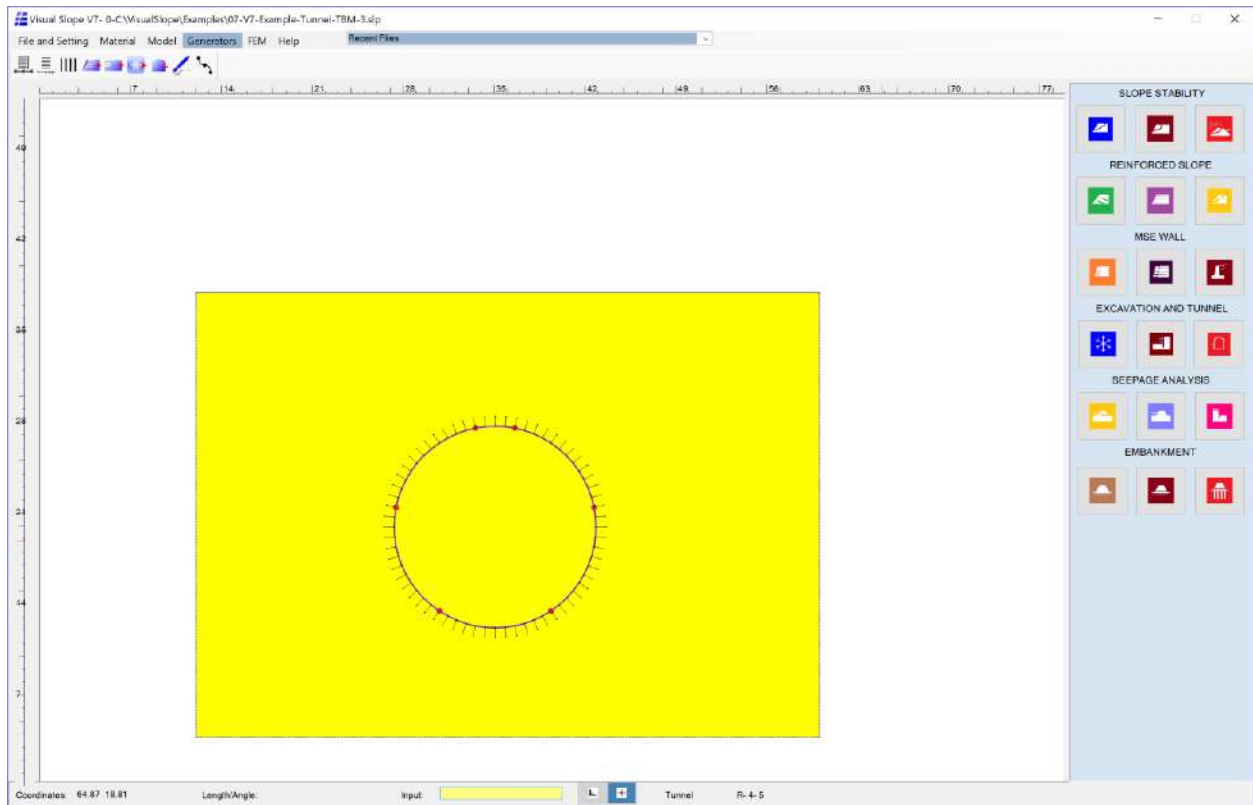
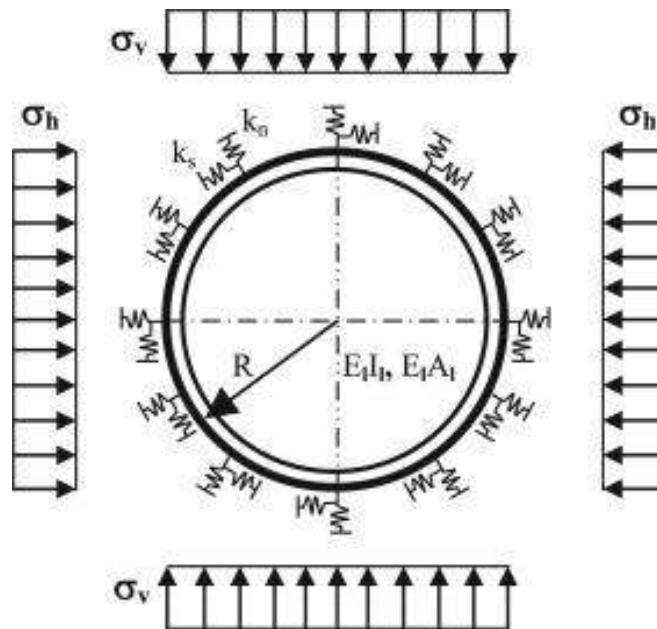
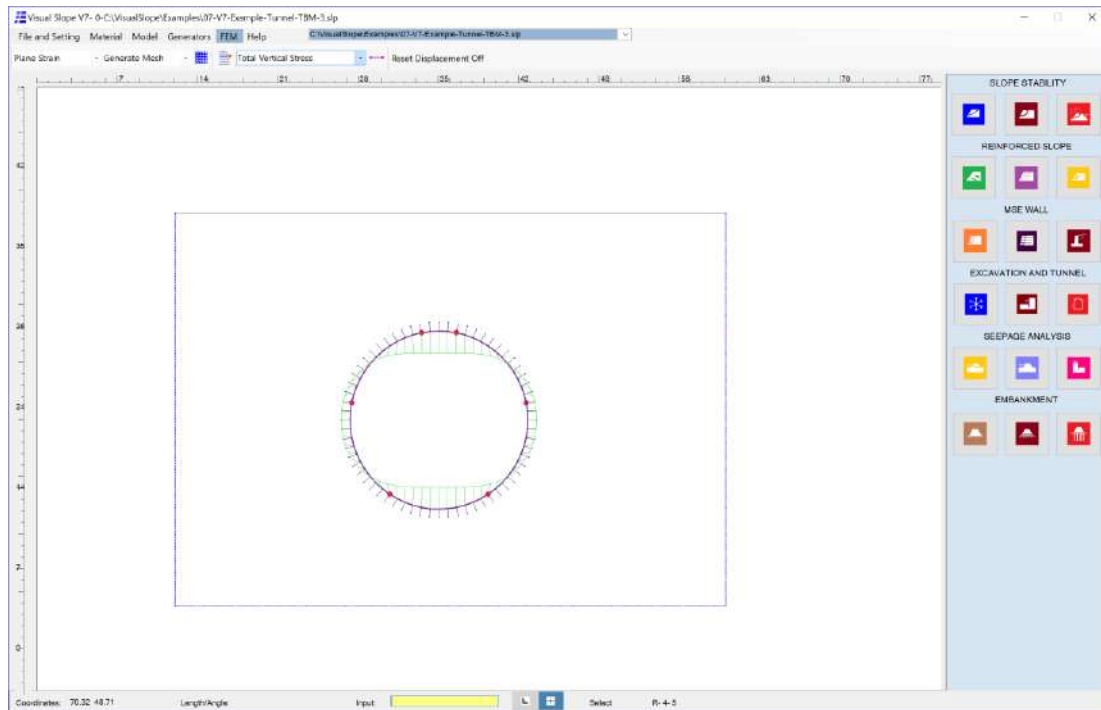
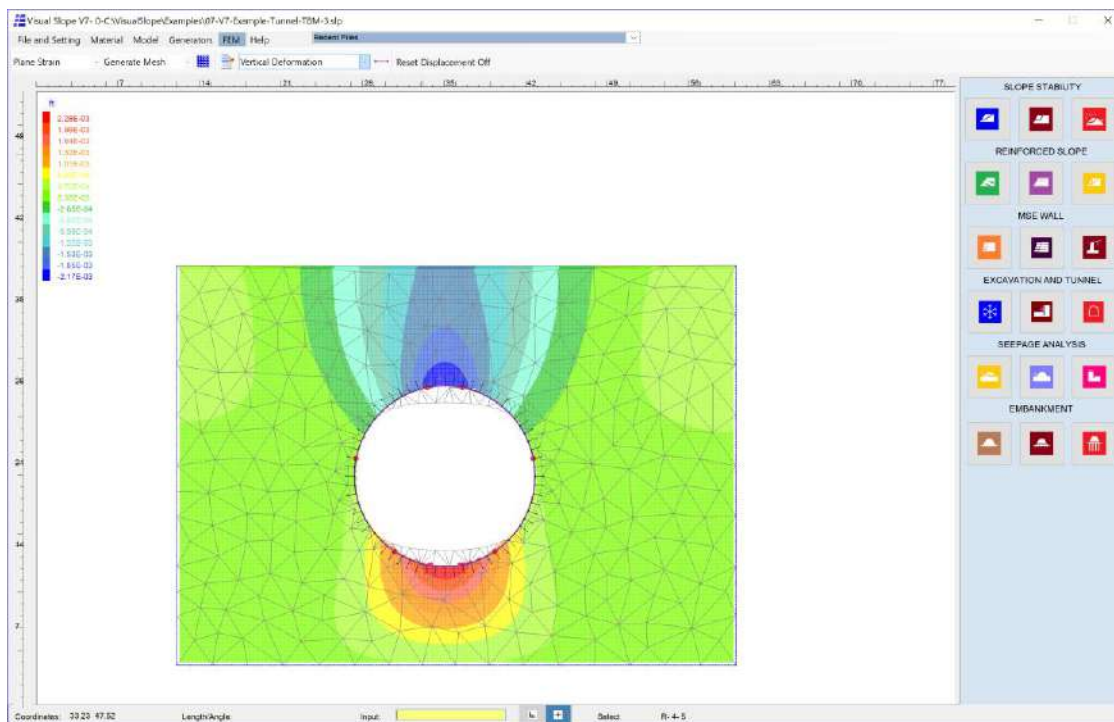

Figure 52: Tunnel Model
Figure 56: Load-Structure Model
Figure 57: Tunnel Lining Deformation under Load Combination 2
Figure 59: Ground Deformation (Mesh) and Settlement (Contour) under Load Combination 2
To view the tunnel section model, click the *View Diagram* button in Figure 51. The tunnel model will appear in the *Main* page of Visual Slope (Figure 52).
To explain the background of analyses clearly, Figure 52 is referenced. If a user only needs to know the deformation and internal forces of the tunnel lining, then the load-structure model, which is recommended by the Army Corps of Engineers' Recommendation (EM 1110-2-290) and as shown in Figure 56, will be used for the analysis. Calculations will be based on the 1-D FEM and conducted for each load combination. After the analysis is completed, the user will be able to view the results of deformations and internal forces of the tunnel lining under each load combination. Figure 57 presents the tunnel lining deformation under load combination 2.
paragraph and shown in Figure 57. Third, once the result of a particular load combination is chosen, the deformation of the tunnel lining under that load combination plus the specified contraction value will be used as the boundary conditions along the tunnel lining in the 2-D FEM model to calculate the stress changes and deformation of the ground due to tunneling. The total stresses in the ground equal the combination of the initial stresses calculated from the first step and the stress changes calculated in the third step. Figure 59 presents the ground deformation due to tunneling under load combination 2. Along the tunnel lining, the ground deformation will match exactly with the tunnel lining deformation calculated in the second step.
1. FEM, which is the 1-D FEM (refer to Figure 56).